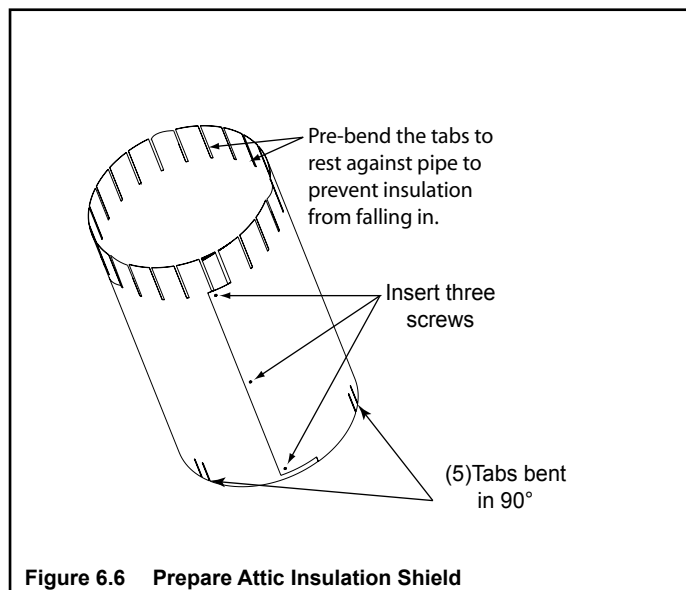

Figure 6.6 Prepare Attic Insulation Shield
- Mark and cut an opening in ceiling/floor as shown in Figure 6.6.
- Refer to Figures 6.6, 6.7, 6.8 and 6.9.